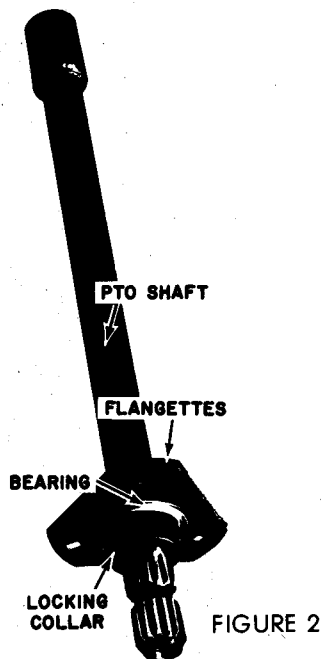

FIGURE 2
b. Remove all paint from the splines on both ends of the PTO shaft. Remove paint approximately 2 inches above the splines so that the bearing assembly can be installed on the shaft as shown in Figure 2.
c. Pre-assemble the bearing, locking collar and flangettes on the PTO shaft as shown in Figure 2. The eccentric shoulder on the bearing must be facing the splines on the shaft. Do not tighten the locking collar.